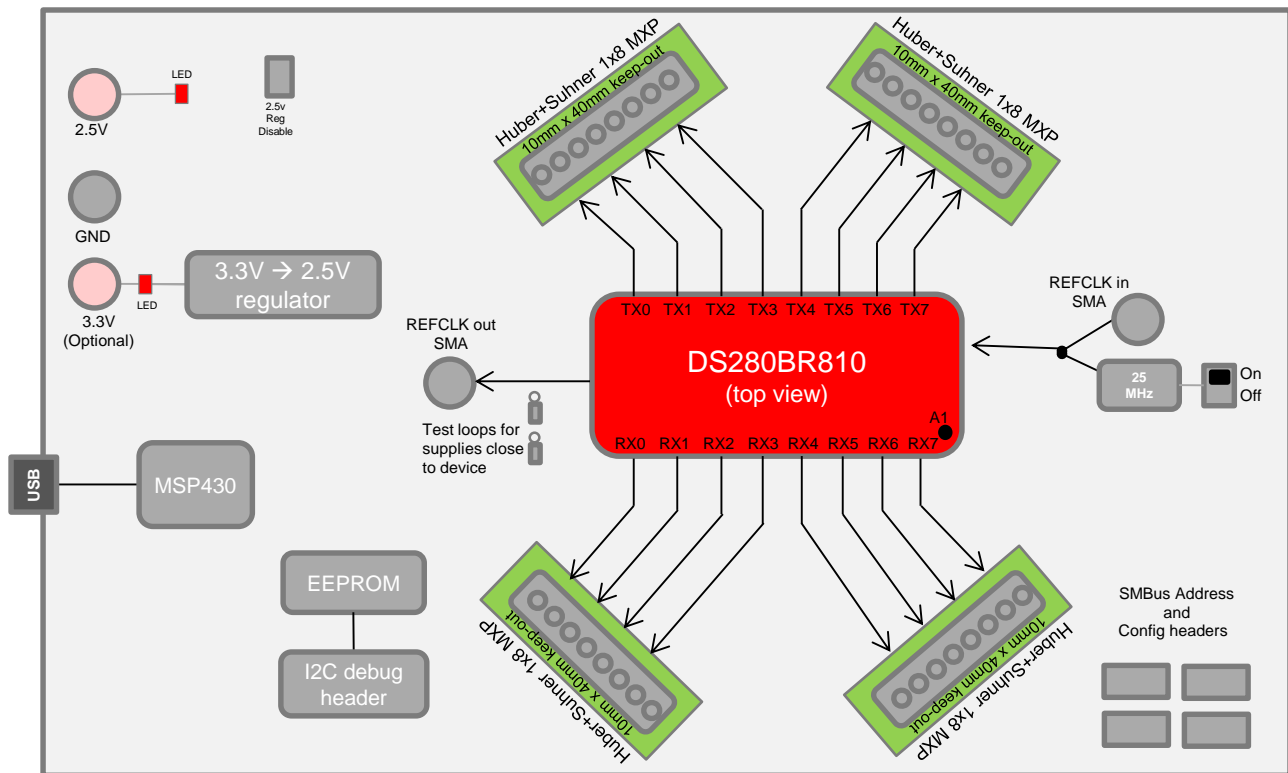
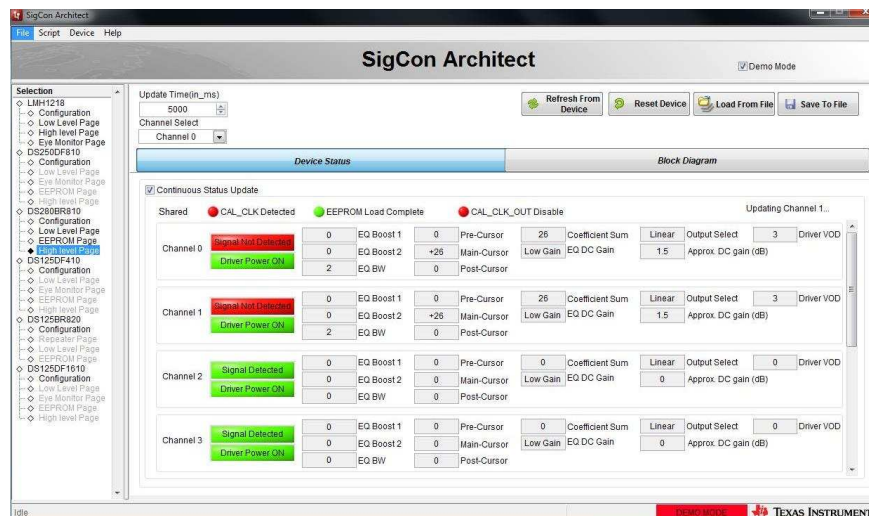
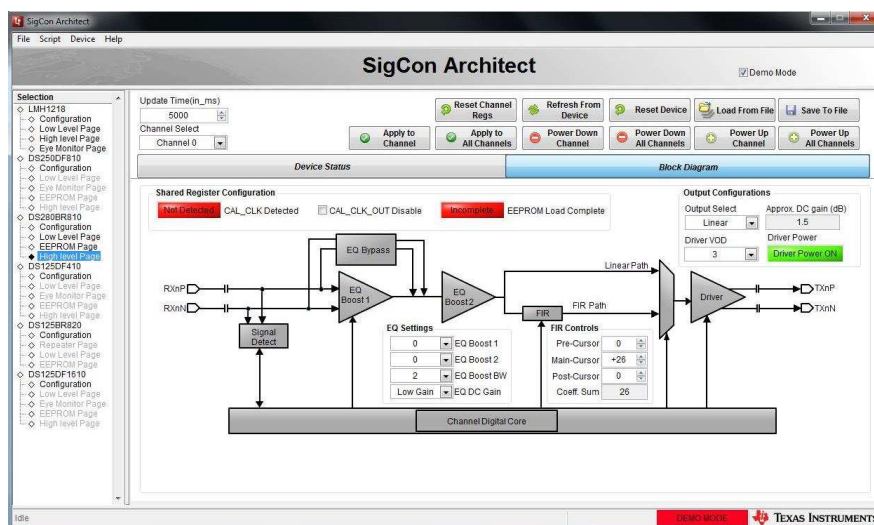

Figure 3. DS280BR8x0EVM Block Diagram
Figure 6. SigCon Architect High Level Page: Device Status
Figure 7. SigCon Architect High Level Page: Block Diagram
The general procedure for setting up and testing with the DS280BR8x0EVM is as follows. For hardware setup and connections in the steps below, reference the illustrations in Figure 3 and Figure 6 to implement the appropriate setup.
- To view a high-level summary of the device status and control settings, navigate to the “High Level Page,” and click on the “Device Status tab” as shown in Figure 6. Click “Refresh From Device” to ensure the settings shown are from the device. The settings on this page are information and read-only.
8. To program high-level settings, navigate to the “Block Diagram” tab on the “High Level Page” as shown below in Figure 7. The EQ Settings, FIR Controls, and Output Configurations are programmable from this page. In order to navigate to specific channels use the “Channel Select” drop down menu. Click “Refresh from Device” to apply the device’s current settings to the control setting boxes. Click “Apply to Channel” to program the device from the “Block Diagram” page. After programming the device, the changed settings can be verified on the “Device Status” page, Figure 6. The CAL_CLK Detected indicator provides a visual representation of whether a calibration clock is active. Note that the DS280BR8x0’s ability to receive, buffer, and re-drive a calibration clock is only for the purpose of supporting a pin-compatible Retimer device.
Eye diagram does not pass mask	<ul style="list-style-type: none"> • Vary EQ Boost Settings as seen in Figure 7.